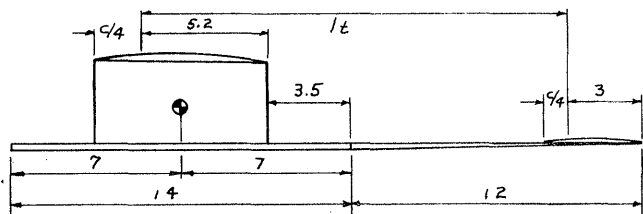
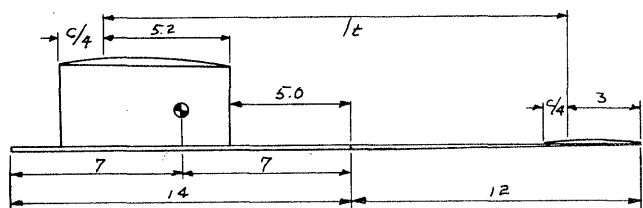

Fig. 1
Fig. 2
2. $l_t = 17.7''$. (From Fig. 1, note that l_t is defined (as in CMOS method) as the distance from $C/4_{wing}$ to $C/4_{tail}$. That is from 25% of the average chord on the wing to 25% of the stab average chord. Thus, from Fig. 1 $l_t = 9 + 3.5 + 5.2 = 17.7$).
Fig. 2 and the following discussion will illustrate the trial-and-error method for proper wing location. From the example above, we can assume that the wing will have to be moved forward. Therefore, assume a wing location 5" ahead of the rear hook, or 1.5" ahead of the original location. Then the new $l_t = 17.7 + 1.5 = 19.2''$, and $l_t/C_{w,ave} = 19.2/7 = 2.74$. From the graph, NP = 82.4%, and NP is 17.6% of 7 or 1.23" ahead of the rear post. The CG is now only 2" ahead of the rear post (trial location) and the margin would be $2 - 1.23 = .77$. $.77/7 \times 100\% = 11\%$ margin, well within proper limits.
Many people tend to shy away from CMOS because of the computations involved. However, if the balance diagram is furnished (as with INAV 3-views), it is simple to balance the model using CMOS. Assemble the model with prop and rubber motor on the complete fuselage/tail group and find the balance point as usual. Measure from the balance point to the thrust bearing - let's assume the distance is 8". If Fig. 1 is the balance chart for the model and we wish to use 0% margin, follow the dotted line up from 8" to the 0% line and across to the Y axis at 8.55". Thus, the rear post should be located 8.55" from the thrust bearing. If the stab tilt and wing washin/washout is OK, only incidence and thrust line should need to be set for a good flying model!
Calculation of CMOS balance diagrams is simpler than most people realize. Fig. 2 is the top of the CMOS computation form, listing wing and tail specifications. Beginning with span and area, the average chord (span/area) and aspect ratio (span/av. chord) are computed. Fig. 3 is the CMOS Chart (extrapolated to wing aspect ratio = 3). With a wing aspect ratio = 6.25:1 and stab aspect ratio = 4.3:1 both lines have to be interpolated; the intersection on the Chart is at .46 (C_T).
Tail moment arm is usually defined as the distance between 25% of average chord on the wing to the same point on the stab. As a beginning example, let's assume a wing and stab that are rectangular; the root chord will equal the average chord. Thus for the model with dimensions as defined in Fig. 2, 25% of wing and stab chords are 1" and .7" respectively. Since the wing and stab do not taper in any fashion, 0" is noted as the dimension between average chord and trailing or leading edges. With a tail boom 12" long, subtract 2.1" from 12" to reach the rear hook, then add the distance "2" and "3" to define the tail moment arm.
The CMOS method is a graphical solution which eliminates several computations by defining a straight line. To do this, the aerodynamic center is calculated for two wing locations; in this example the wing will be 1" from the rear hook ($Z = 1''$) and 6" from the rear hook. The formula for A.C. is shown solved for these two wing locations and values for X (distance from balance point to nose) and Y (distance from rear post to balance point) are plotted on Fig. 1, working from values in the box on Fig. 2.
The computations discussed above were also made with the stipulation of 0% margin - the aerodynamic center and center of gravity are coincident. This simplifies the computation considerably. Note that Fig. 1 has three balance lines - +5%, 0% and -5%. Only the 0% line was calculated in Fig. 2, and the other two lines were established
by moving the 0% line .05 x 4 (4" avg. chord) in each direction. Three dotted lines on Fig. 1 show the effect on wing location that different choices of stability margin will have; rear wing post locations are 8.8", 8.55" and 8.3" from the nose as the margin changes from +5% to -5%.
To figure stability margin on an existing model, compute the A.C. as before, then measure where the CG is with respect to the CG. Compute the margin according to the formula shown in Fig. 2. Fig. 5 illustrates this process on two models built to the design illustrated in Fig. 2, except that both models were built with fixed 70% CG. Model A balanced 6" from the nose and model B balanced 9" from the nose. The margin computation shows dramatically how much variation is possible between models of the same design which vary in balance point - the wing posts of model A might have to be moved as much as 1/2" to make it fly as well as model B!